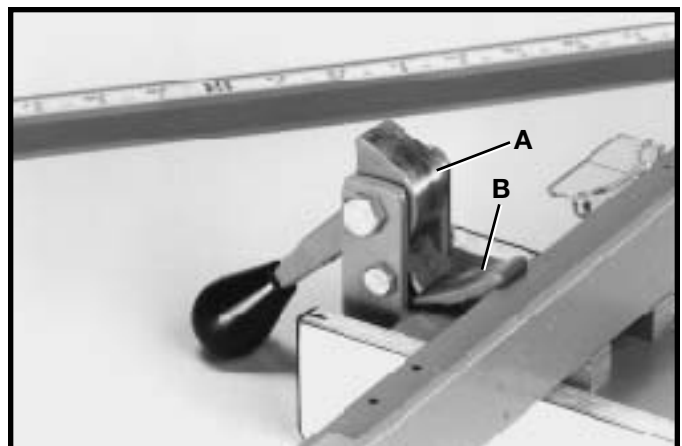

Fig. 62
2. Apply grease to cam lock (A) Fig. 62, and cam foot (B) occasionally to prevent wear.